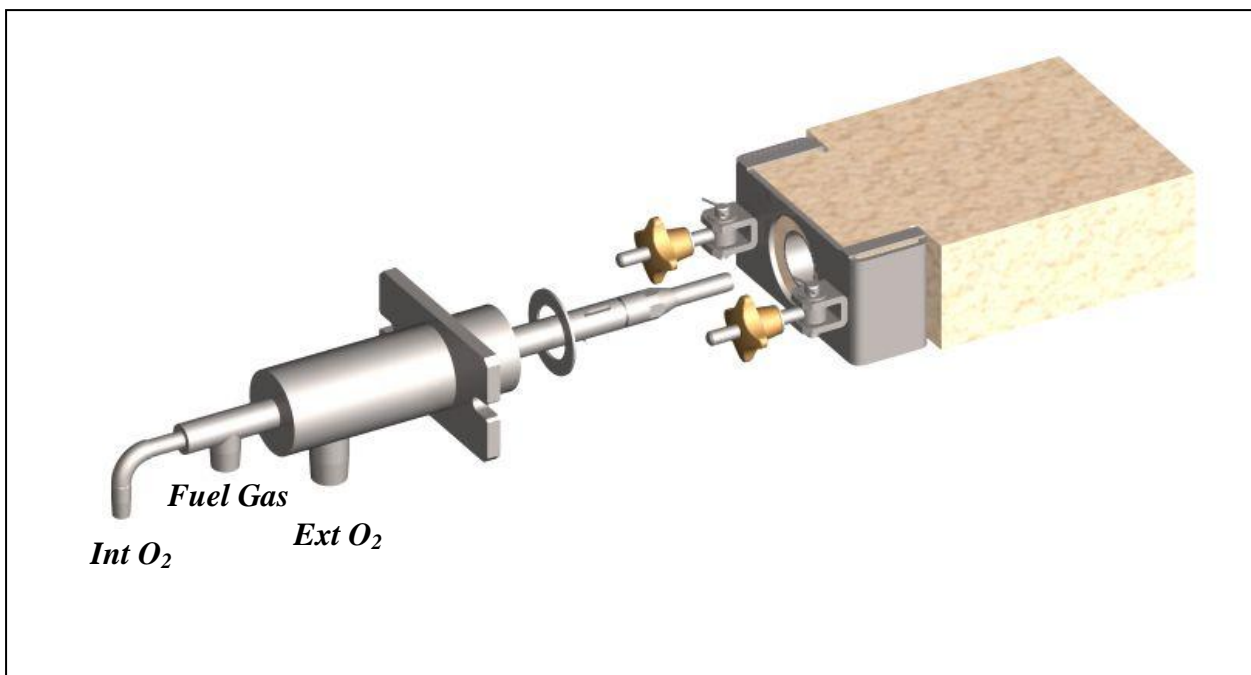

Figure 7
- ◆ Place the burner in the block (Figure 7). Place the bracket adapter bolts in the burner body plate slots, and tighten them to compress the ceramic gasket.